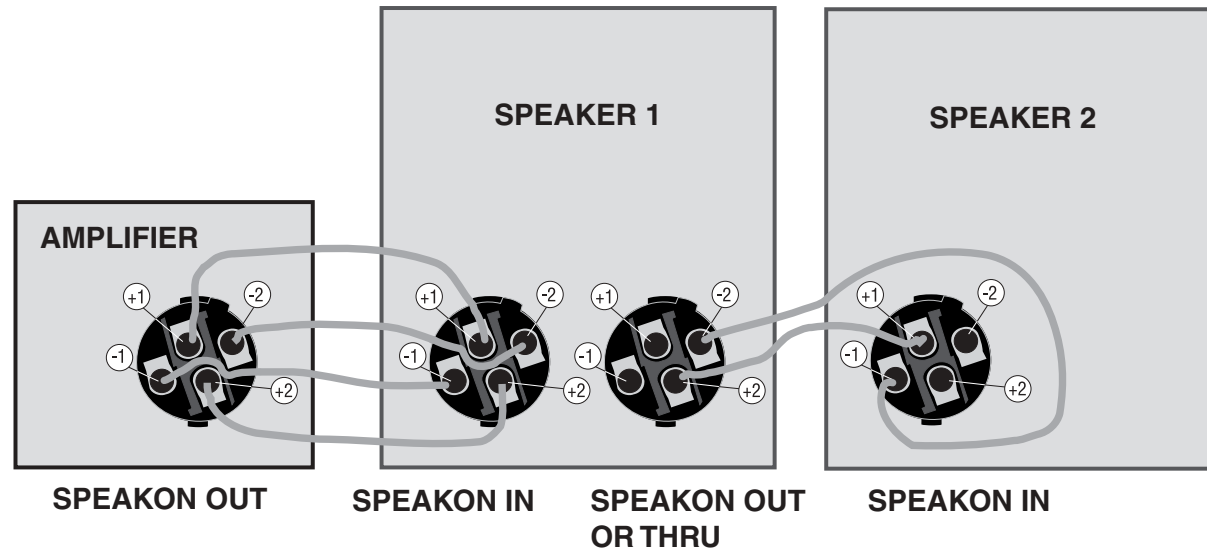

Figure 2.9 Speakon® Stereo Wiring Option 2:
2) Wire speaker 1 to the amplifier's Speakon® connector, and wire speaker 2 to speaker 1 (Figure 2.9).